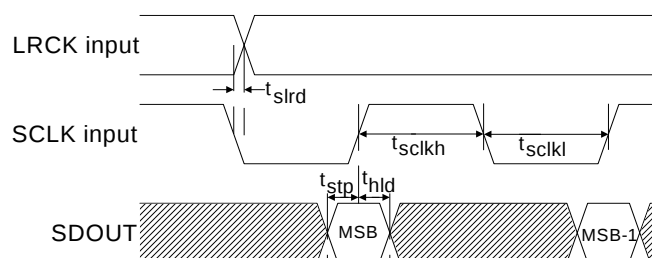

Figure 5. Slave Mode, Left-Justified SAI
18. t_{sclkw} = t_{sclkh} + t_{sclkl} in Figures 5 and 7.